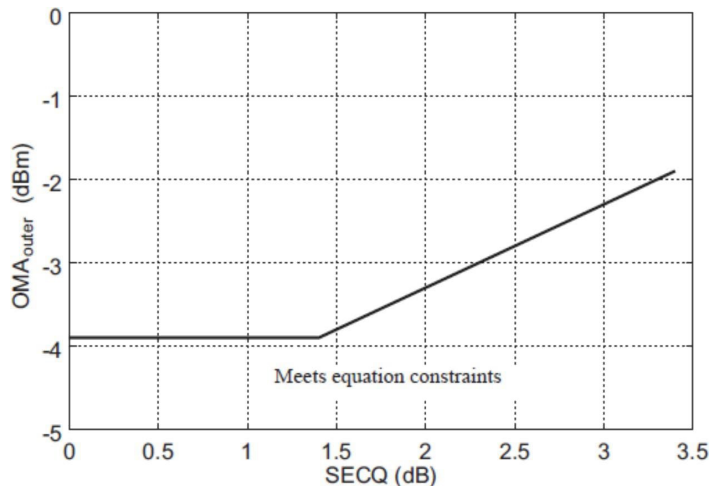

Figure 4. Illustration of Receiver Sensitivity Mask for 100G-DR1
- Receiver sensitivity (OMAouter), each lane (max) is informative and is defined for a transmitter with a value of SECQ up to 3.4 dB. It should meet Equation (1), which is illustrated in Figure 4.